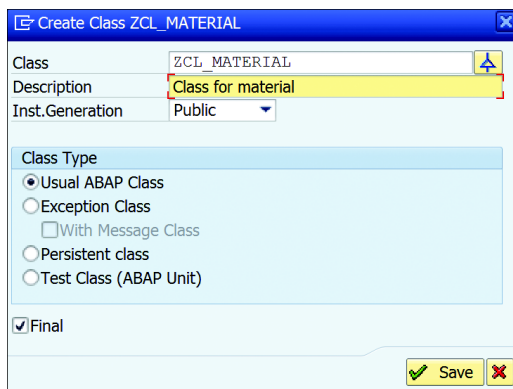

Figure 7.24 Maintain Class Properties
3. In the dialog box that appears, maintain a short description for your class, and leave other options set to their default values; we'll explore these other options in the next chapter. Click **SAVE**, as shown in Figure 7.24.